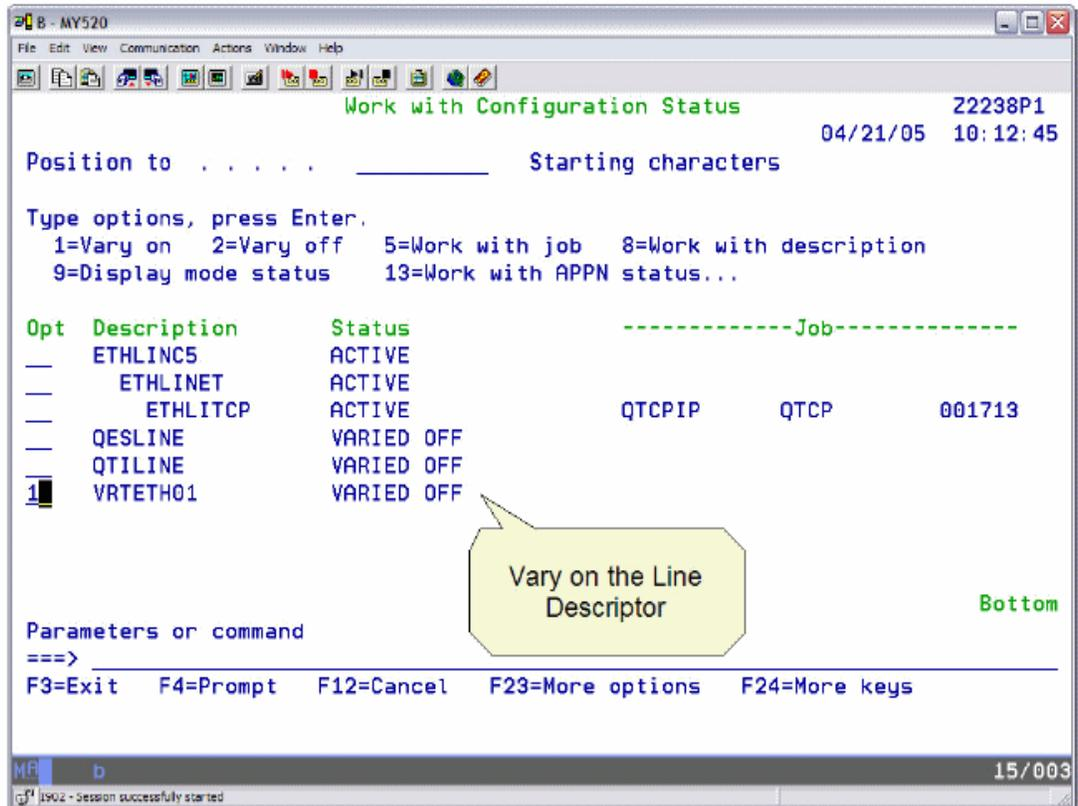

Figure 13-22 Work with Configuration Status
- Once the Ethernet line descriptor is created, it needs to be varied on. You can accomplish this with the Work with Line Descriptors (**WRKLND**) command as seen in Figure 13-22.